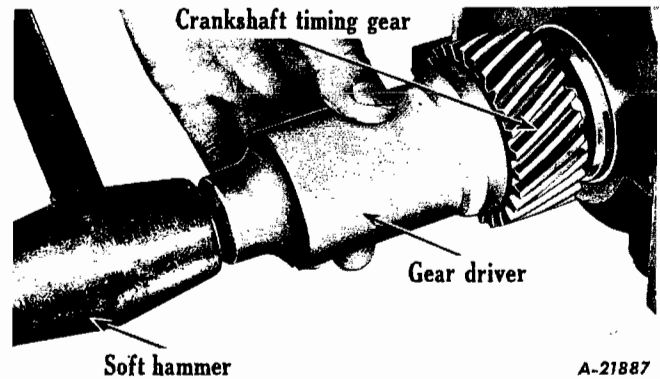

Fig. 60 - Installing crankshaft timing gear using SE-1716 Installing tool.
- Install Woodruff key in groove in crankshaft. Heat crankshaft gear in boiling water or piston heater. This will expand the gear enough to let it be tapped on the crankshaft without the danger of damaging the gear. Use gear driver to insure alignment when starting gear (Fig. 60).